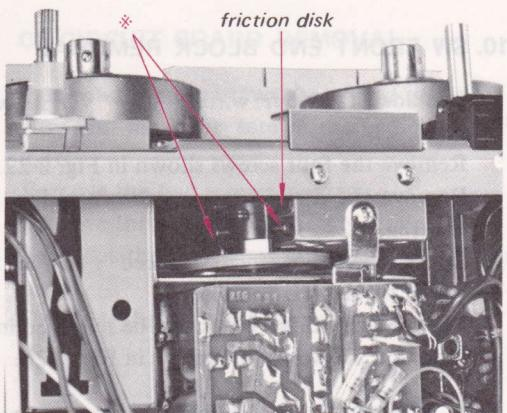

Fig. 2-25
4. Loosen the two screws marked \* in Fig. 2-25 which fix the friction disk.